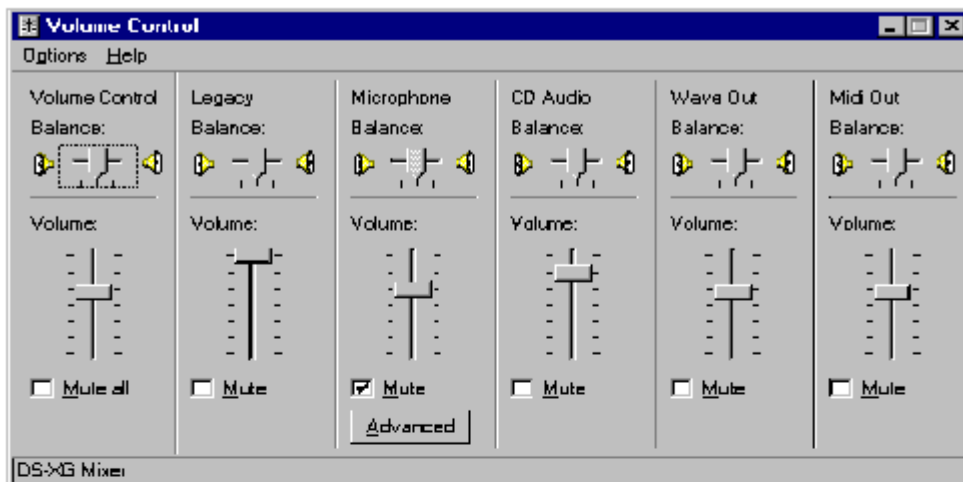

Figure 3-2. The Volume Control window.
- 4) To access Advanced control of the Microphone device, first click on Mute and then click the Advanced button as shown in Figure 3-2 below.